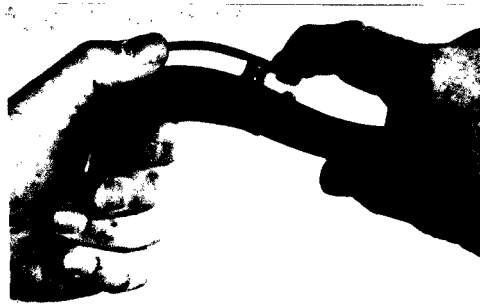

Figure 58
3. If the bridge key has not been damaged and the upper octave key remains open, bend the key as shown in Figure 58.